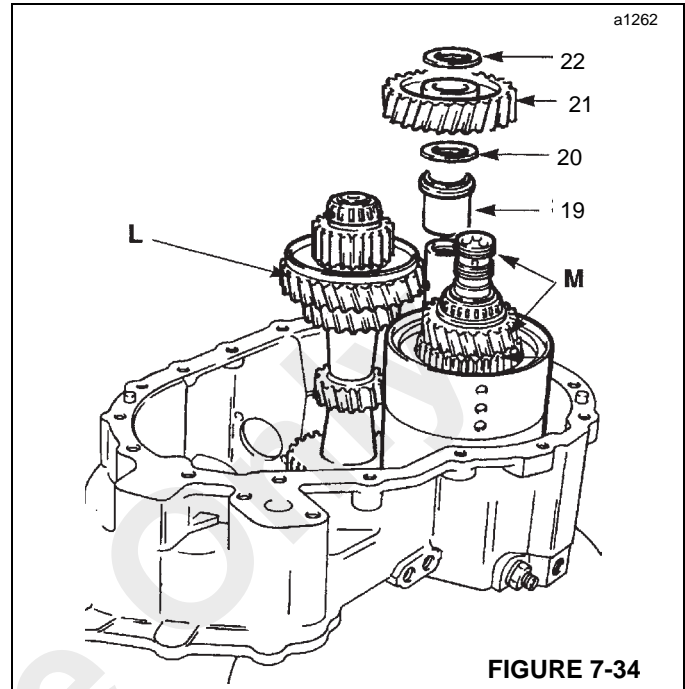

FIGURE 7-34
18. Coat the mainshaft **L** (Figure 7-34) output bearing with grease and place in position, followed by reverser assembly **M**.
19. Install idler gear spacer (19, Figure 7-34).
20. Install thrust washer (20)
21. Install synchro cup to 3rd gear (21) (mainshaft **L**). Lubricate idler gear roller bearings and assemble to spindle while tilting mainshaft **L** to one side.
22. Install thrust washer (22).